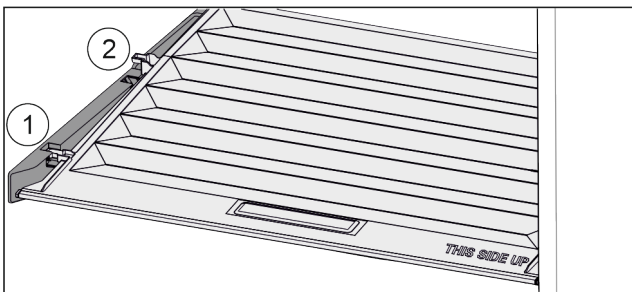

Fig. 149
- ▶ Pull the lid up at the front to the opening in the retaining parts Fig. 149 (1).
- ▶ Lift from the back and pull it up and out Fig. 149 (2).